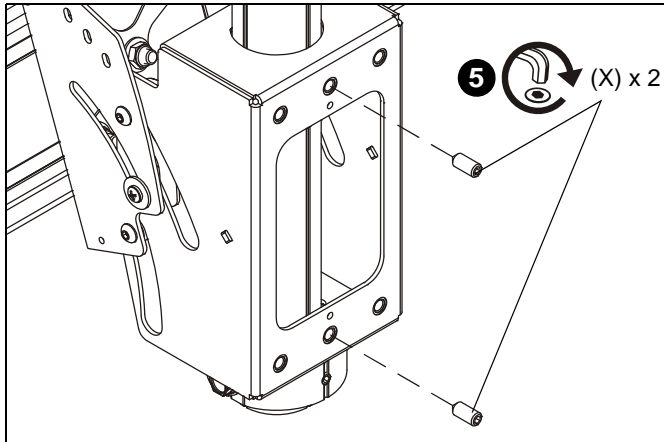

Figure 4
5. Install and tighten two 5/16" x 3/4" set screws (X) through back of mount (CC) and against column. (See Figure 4)